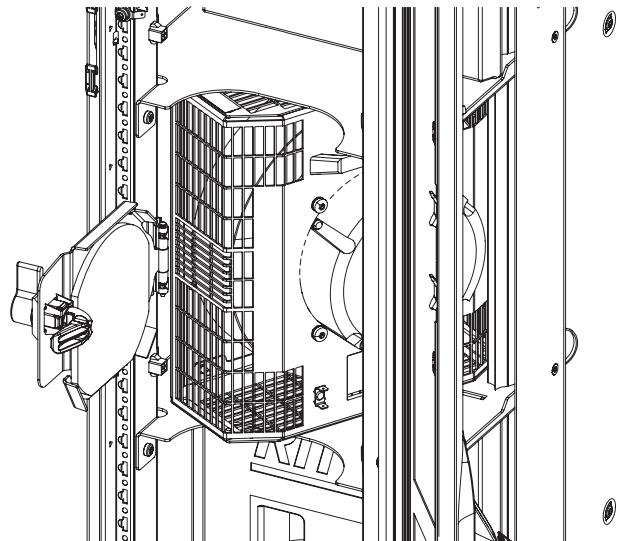

Fig. 52: Rotated fan module in fan tray
- Rotate the fan module in the rack by 90° in a counter-clockwise direction (fig. 52).